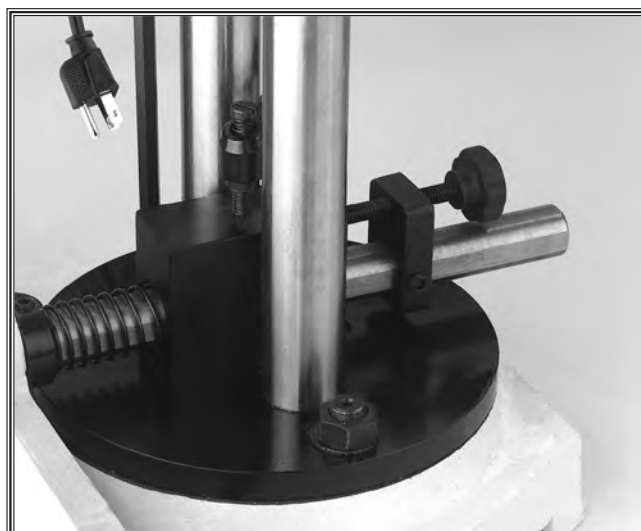

Figure 16. Micro-adjustable stop in position.
3. Replace the micro-adjustable stop and secure with the setscrew. See Figure 16.